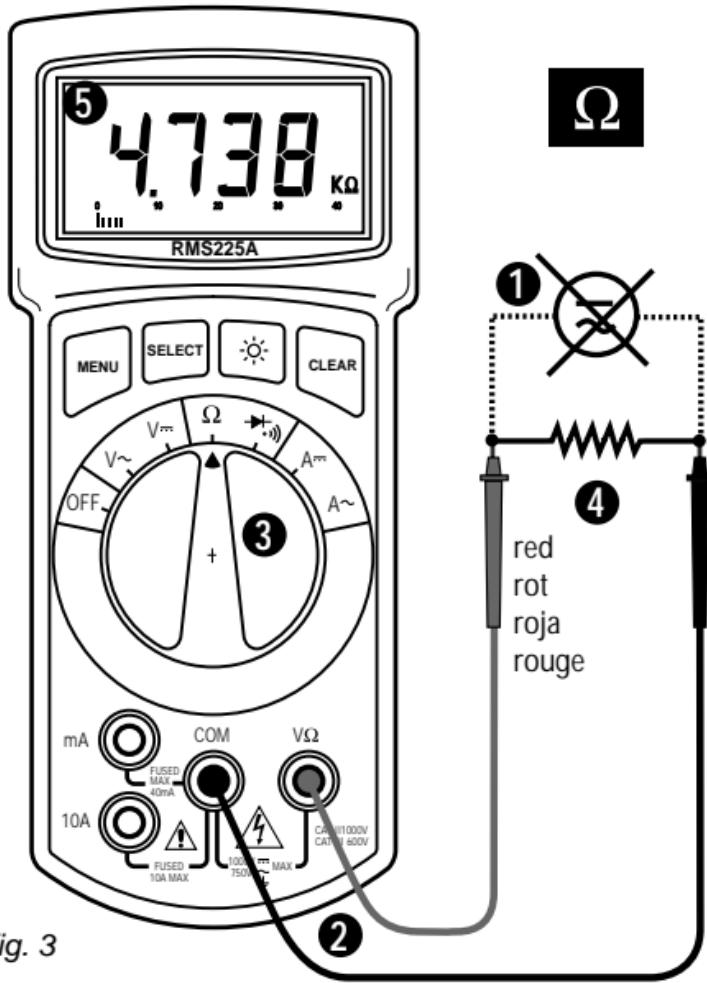

Fig. 3
RESISTANCE MEASUREMENT (See Fig. 3)
inaccurate readings. ❷ Connect test leads as shown in figure 3. ❸ Set Function/Range Switch to Ω position. ❹ Connect test leads to circuit being measured. ❺ Read resistance value on Digital Display. Open circuits will be displayed as "I.O.L."
D • Widerstandsmessung (siehe Fig. 3)
E • Medidas de Resistencia (vea Fig. 3)
F • Mesure de Résistance (voir fig. 3)